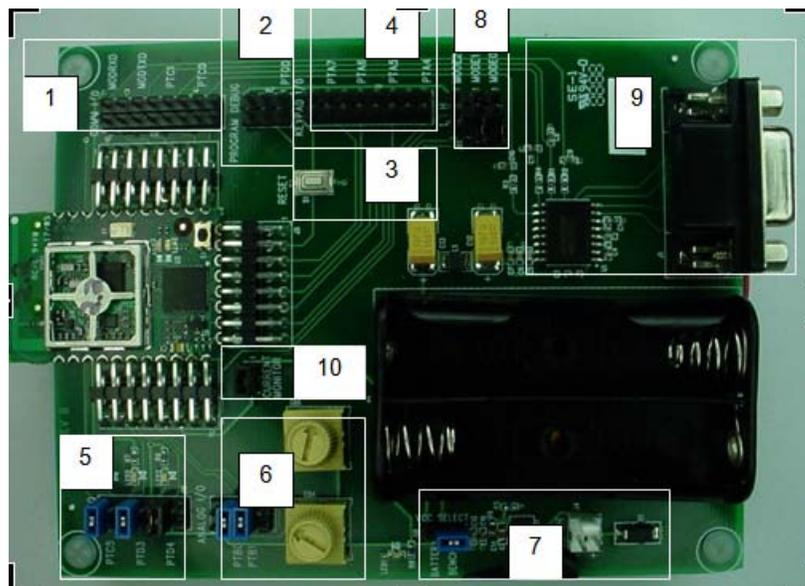

Figure 3-1 Interface Module with FreeStar Module Inserted in Socket
1. Press white reset button on Interface Board (See Figure 3-1 location 3) and black button on FreeStar module simultaneously.
3.1.1 Interface Board Description for Each Location Shown in Figure 3-1
- Header that allows the user to monitor the serial TX (MODTXD) and RX (MODRX) data lines from section 9 as shown in Figure 3-1 above. The header also provides quick access to Port C pins 0 and 1 on the microprocessor.
- To utilize LED's the jumpers must be connected as shown in Figure 3-1. The jumpers may be removed to externally access Port C pin 5 and Port D pins 3 and 4 for input or output operation.